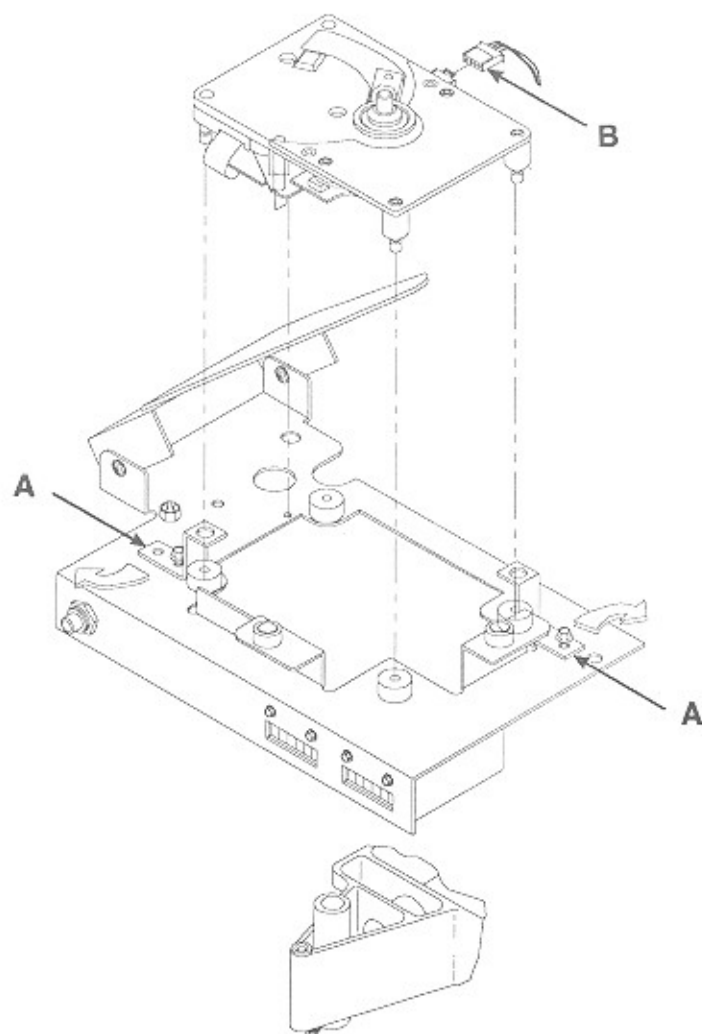

Figure 6-2A. Removing The CD Player
2. Refer to *figure 6-2A* as you do this step. To remove the player, loosen the screws holding the two retaining brackets (A) in place, swing the brackets out of the way, and lift the player straight up (If any of the four grommets from the player posts remain attached to the player, remove them from the player posts and place them in corresponding hole in the mounting frame).
3. Refer to *figure 6-2A* as you do this step. If not previously done, disconnect the small player electrical plug (B).
Do not attempt to turn the CD title pages by hand unless you use the handwheel on the back of the title rack (see figure 6-2A).